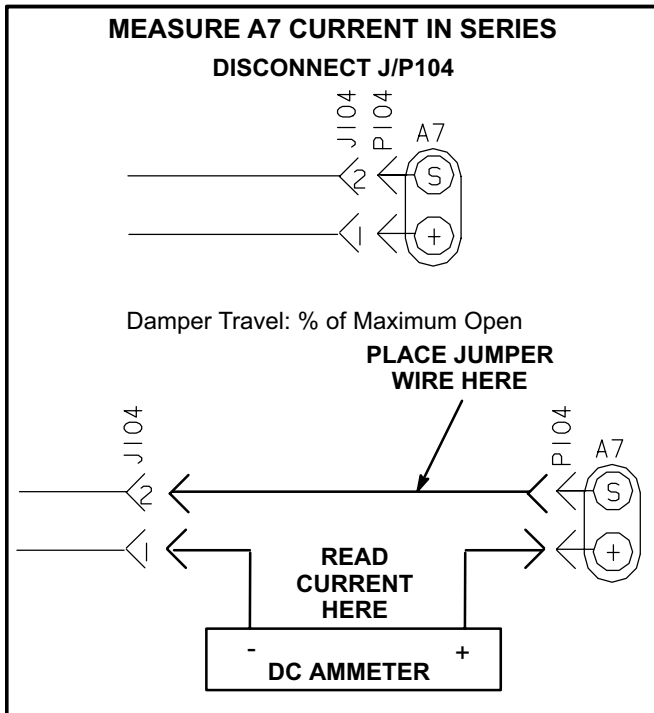

FIGURE 36
- 1- Connect a DC ammeter as shown in figures 36 and/or 37.